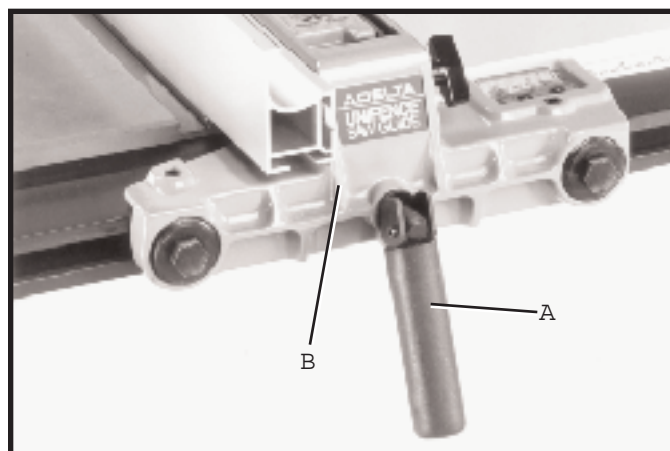
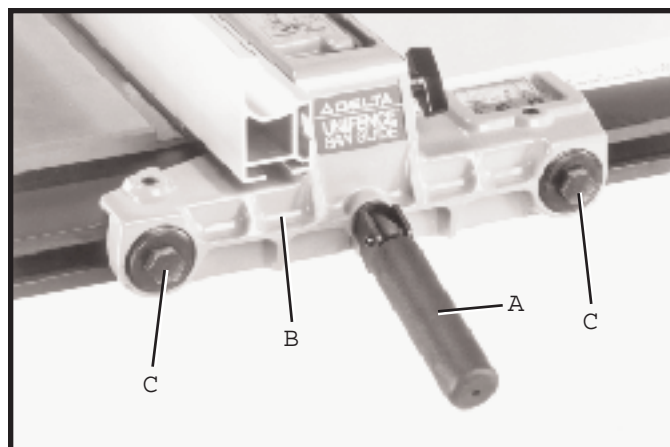

Fig. 61
Fig. 62
When the fence locking handle (A) is pushed to the down position, as shown in Fig. 61, the fence body (B) should be completely clamped to the guide rail. If the fence body (B) is not completely clamped to the guide rail when the handle (A) is in the position shown in Fig. 61, lift up on locking handle (A) Fig. 62, and slightly tighten two adjustment plugs (C) using arbor wrench or 7/8" wrench. Adjustment plugs (C) should be tightened an equal amount. Check to see if the fence body (B) is completely fastened to the rail by pushing down on locking lever (A). Adjust further if necessary. **IMPORTANT: AFTER ADJUSTING THE CLAMPING ACTION OF THE FENCE LOCKING HANDLE, CHECK TO SEE IF THE FENCE IS PARALLEL TO THE MITER GAGE SLOT AND ADJUST IF NECESSARY.**